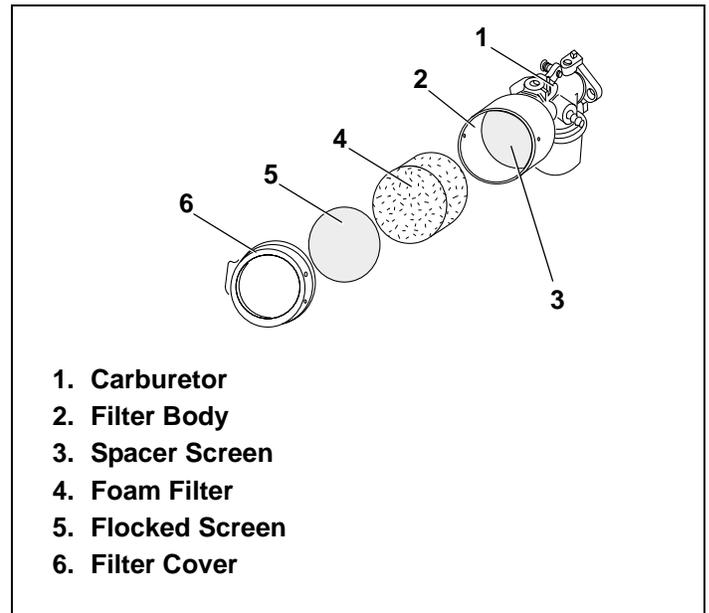

Figure 20. Air Filter
1. Loosen filter cover by pulling tab outward. See Figure 20.